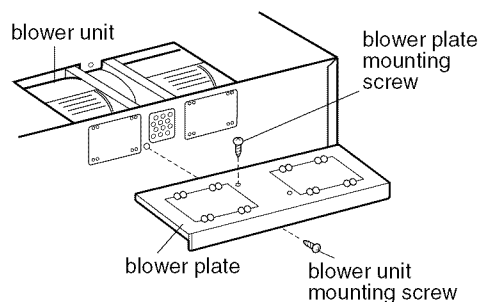

Figure 21
6. Reattach blower plate to microwave oven. Attach with the one blower unit mounting screw and then the one blower plate mounting screw. See **Figure 21**.